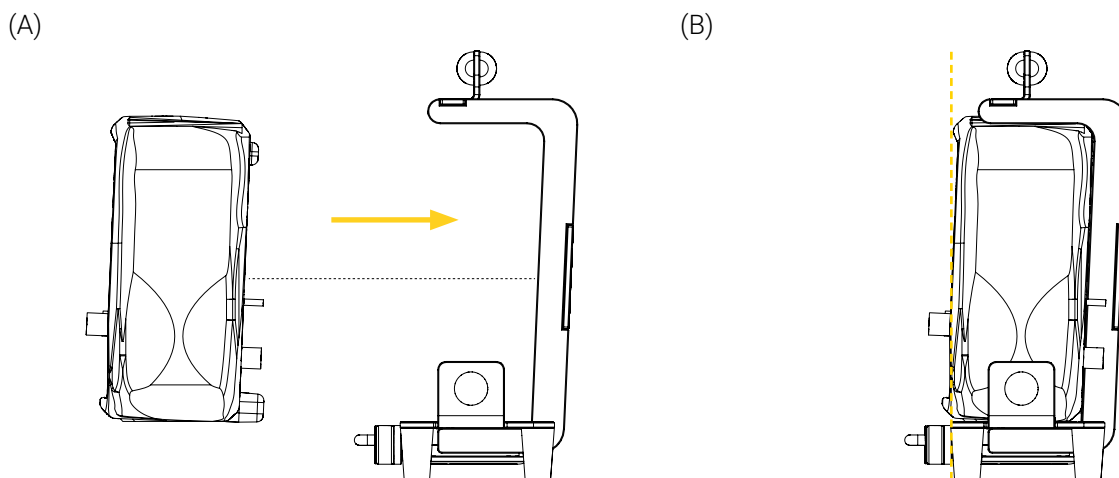

Figure 7: Installing the medical device in the BP310 – FL
2. Align and insert the medical device in the mounting bracket horizontally until it reaches the back plate and will not interfere with the rotary locks (Figure 7).